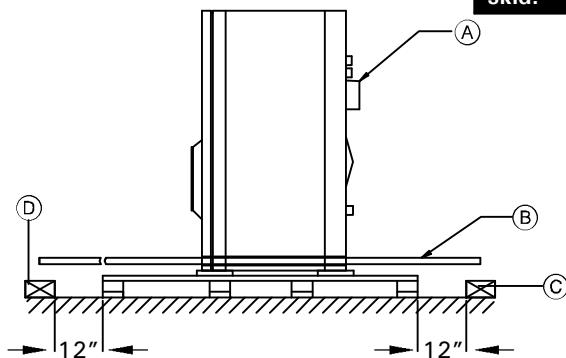

Fig. 2
3. Insert 1" Ø pipes through openings in casting legs. Ends of pipes should be centered on wooden block behind skid (Fig. 2).